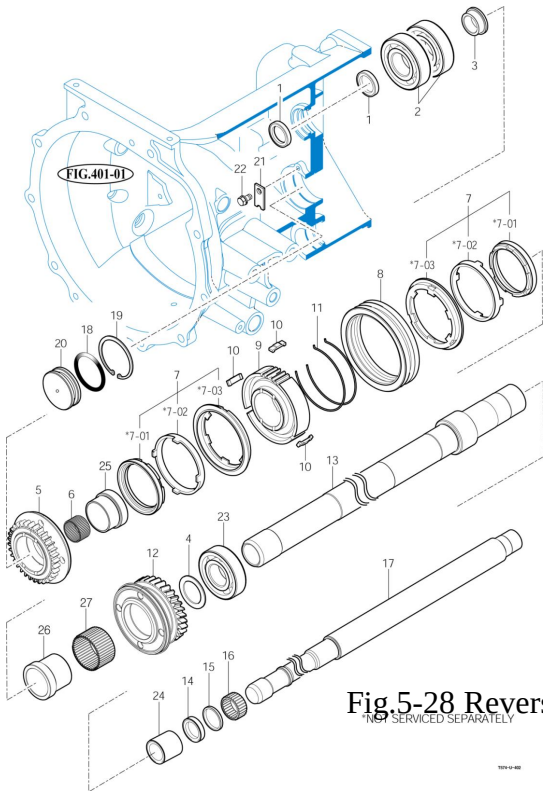

Fig.5-28 Reverse change gears
(3) installation of the reverse change lever and related parts.
- a. Install the reverse gear assembly from the spacer transmission referring to the description (Fig 5-27), (Fig.5-28), (Fig.5-291)